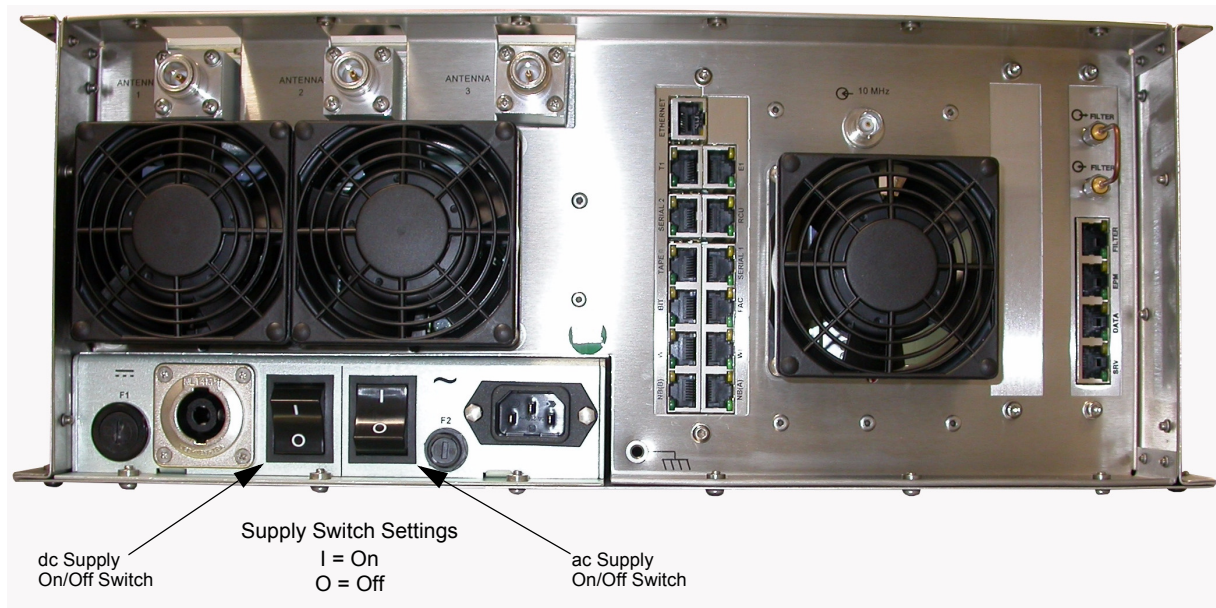

Fig 3-1 M7 Radio Rear Panel Supply Switch Location
- (1) At the rear of the radio, identify the ac and dc supply switches (Fig 3-1).
- (2) If an ac supply is connected to the radio, set the ac supply switch to the On position. Similarly, if a dc supply is connected, set the dc supply switch to the On position.